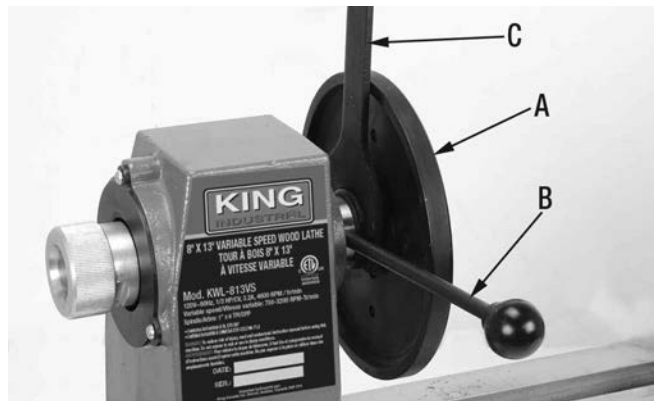

FIGURE 4
Your wood lathe comes with a 5-1/4" faceplate (A) Fig.4. This faceplate allows you to fasten your workpiece to the spindle when it is impossible to fix the workpiece inbetween two centers.